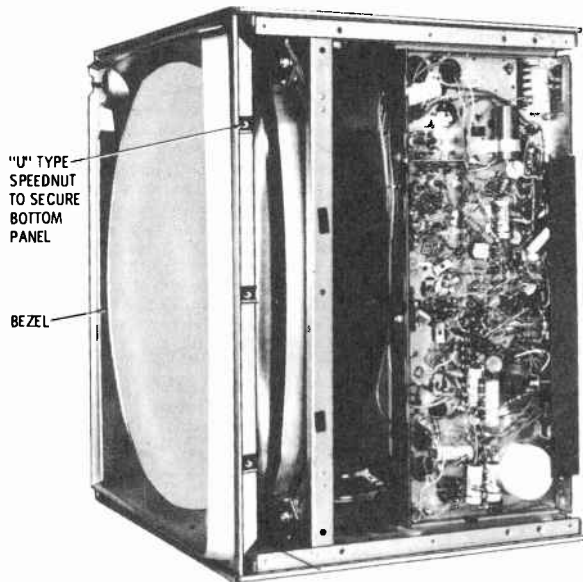

FIGURE 3A.
SERVICING CHASSIS IN CABINET is easy, since entire bottom panel comes off by removal of nine (9) retaining screws in bottom panel. Voltages and waveforms can be taken, and all chassis components are accessible. Observe all electrical safety precautions when working on the exposed chassis. For tuner servicing, remove entire cabinet, as explained in following steps. (See Figure 3A.)
CLEANING OF PICTURE TUBE SCREEN and safety glass is accomplished by removal of front bezel. Screw in upper right-hand corner of cabinet locks bezel in place; After locking screw is out and the three (3) retaining screws in bottom panel removed (or the entire bottom panel removed, if desired), pull off the front knobs; then remove the bezel by pulling bottom of bezel out from cabinet and dropping bezel downward to disengage top retainers. **WARNING: When bezel is replaced during re-assembly, inside locking screw must be replaced so untrained personnel cannot gain access to front of set.** (See Figures 3A and 3B.)
1. Remove entire cabinet wraparound, as illustrated in Figures 3A, 3B, and 3C, then disconnect and remove the deflection yoke, second anode connector, and the picture tube socket. Loosen the picture tube mounting bolts at upper right and left-hand corners of the mounting strap, and carefully remove the picture tube.